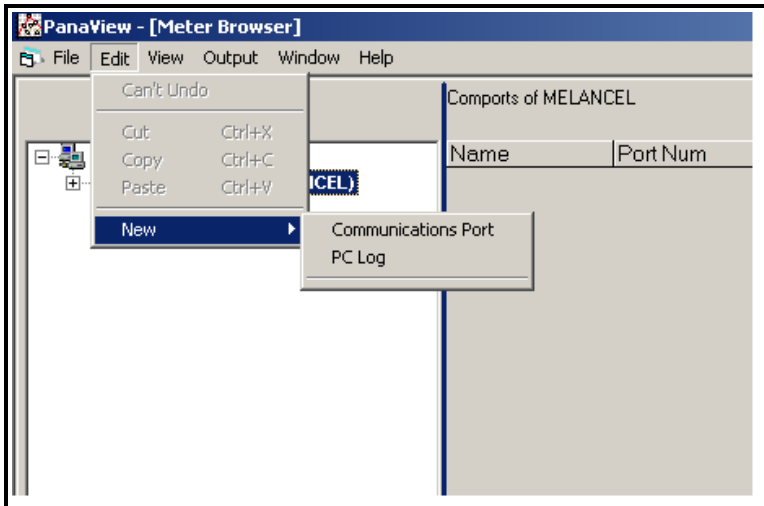
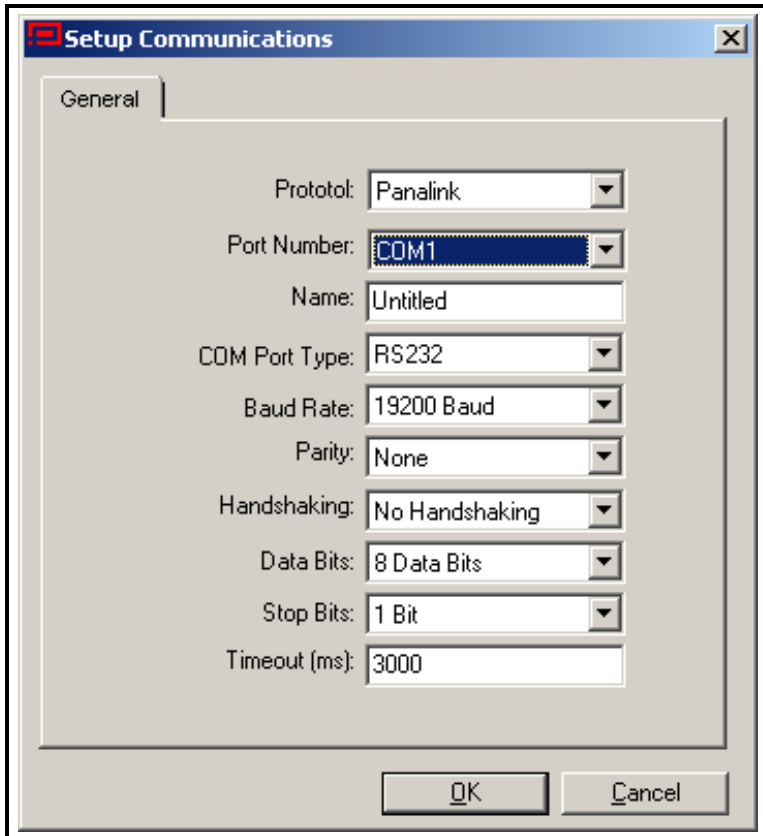

Figure 4-5: The Edit Menu
Figure 4-6: The Setup Communications Screen
3. Click on the “*New*” menu option to select it, and a submenu opens with two choices on it (see Figure 4-5 below).
4. Click on the “*Communications Port*” option to select it (see Figure 4-5 on page 4-6). The dialog box shown in Figure 4-6 below appears, with “*Untitled*” as the default “*Name*.”
The dialog box in Figure 4-6 above permits the user to name the communication port (“*Comport*” is used for this example) and to set up all of its parameters.
5. After all of the communications port parameters have been set, click the [OK] button (see Figure 4-6 on page 4-7).